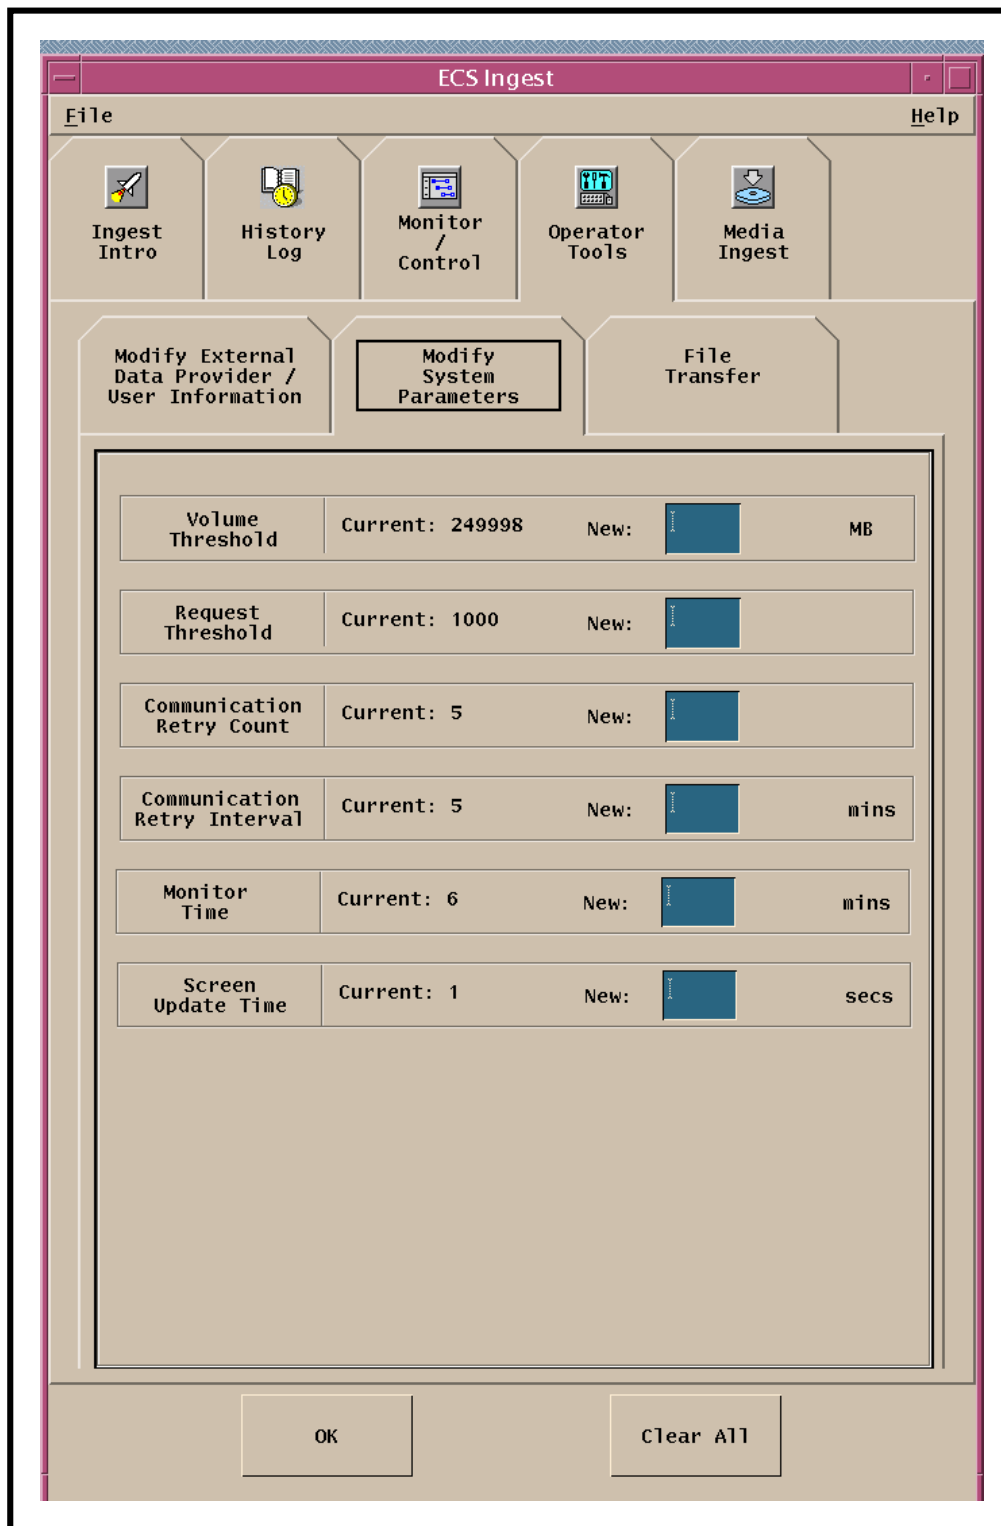

Figure 31. Ingest System Parameter Modification Screen
Figure 31 shows the screen for modifying system parameters that can be modified through the Ingest GUI. It has the following uses:
- The **Modify System Parameters** screen (Figure 31) is displayed.